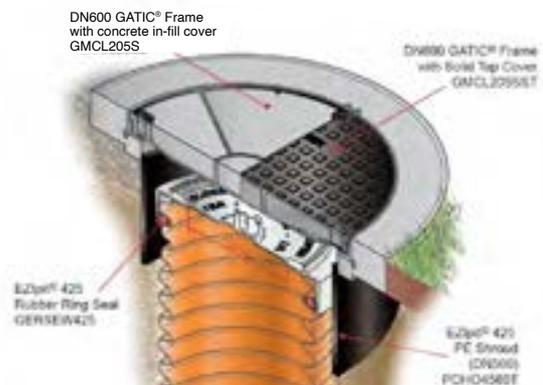

Figure 25: EZIpit® 425 Cover arrangement (Sloped surfaces).
**Class B cover arrangement Option 3 (Flat or sloped finished surface). Refer figure 25.**